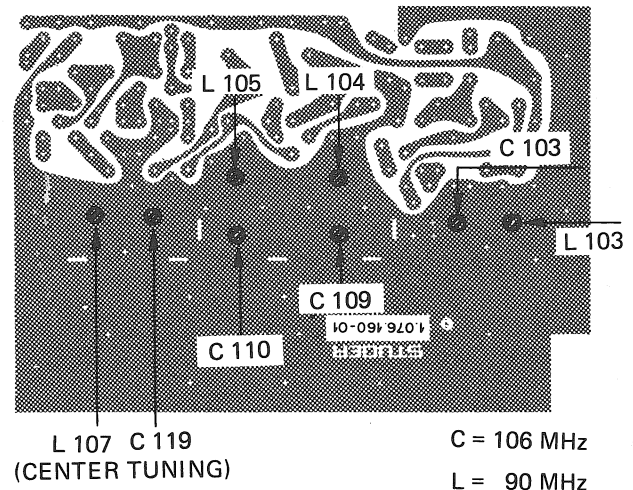

Fig. 4.7.-2
Adjust oscillator slug L107 until a zero indication is obtained on the centre tuning meter (44). This adjustment is carried out from the soldered side of the print (see fig. 4.7.-2)
obtain a maximum reading (adjustment from soldered side, see fig. 4.7.-2)